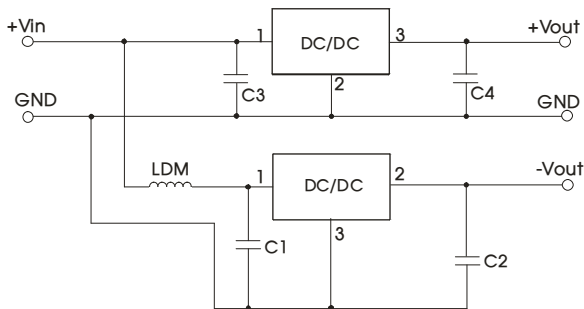

Fig. 3 Positive and negative output application circuit
3. When using configurations as shown in figure 3, we recommended to add an inductor (LDM) with a value of up to 10μH which helps reducing mutual interference.
5. Connecting a "LC" filter at the converter output helps to further reduced the output ripple. The recommended inductor value (L) is 10μH-47μH.